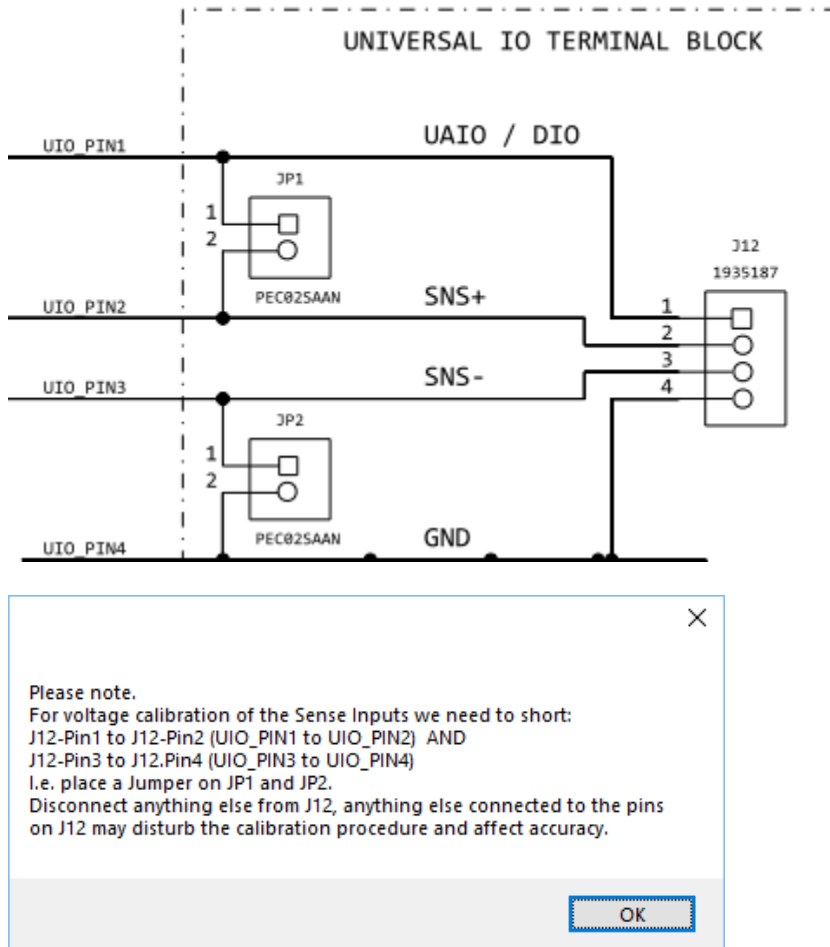

Figure 5. MAXREFDES185 IO terminal block.
10. A message box will appear (**Figure 5**) indicating that the SNS+ and SNS- pins (J12 pin 2 and pin 3) need to be connected to the DAC and GND. The easiest way to do this is by closing JP1 and JP2 with shunts.